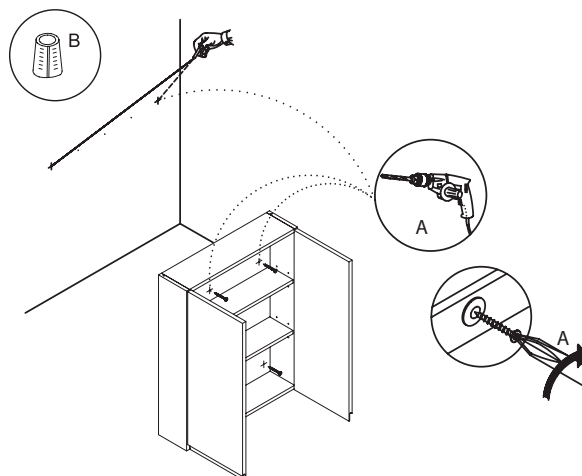

Figure 1
**3:** Secure the cabinet to the wall by inserting (x4) 2" screws with (x4) washers through the backrails of the cabinet and into the wall. Figure 1.